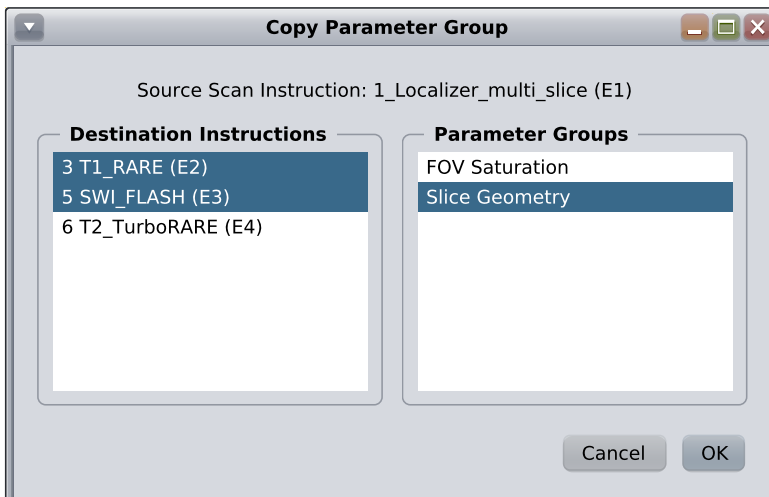

Figure 1.24: Dialog Copy Parameter Group
- A dialog (see [Figure 1.24 \[p 48\]](#)) is opened allowing the operator to select the destination instruction(s) (which should receive the parameters) and the parameter group to be copied. Clicking **OK** will immediately perform the copy operation.